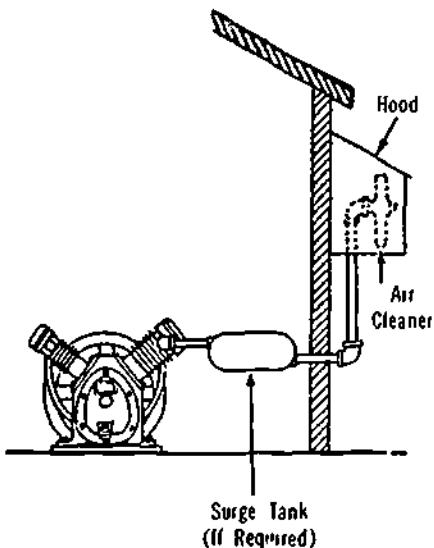

Figure 32-5. Inlet Piping Arrangement
7. *Inlet Piping.* Compressors are normally equipped with inlet mufflers and cleaners, but inlet piping is not included. If desired, the inlet may be piped to another room; in any event, the inlet muffler and cleaner must be used, and if the inlet is piped outdoors, it must be hooded to prevent the entry of rain and snow. In areas of heavy snowfall, it should be positioned high enough to be free of drifts. Inlet piping should be as short and direct as possible and as large as, or larger than, the diameter of the inlet connection. It must also increase in diameter at 15 m intervals. If the total length of piping is between 15 m and 30 m, it is recommended that the increase in diameter be made mid-point in the length, that is if the total length is 24 m, increase the pipe diameter at the 12 m point. (See Figure 32-5.)
Figure 32-5 shows a typical hookup, with a surge tank, which is required for compressors that are regulated by a constant-speed or dual control fitted into the inlet piping. If a surge tank is not fitted, air surging in and out of the inlet when the compressor is running unloaded (inlet valves open) will cause the inlet piping to heat. Thus, when the compressor loads (inlet valve closed on the compressor stroke), the hot piping will increase the temperature of the inlet air to a degree that would contribute to carbonization and consequent valve trouble. Consult the manufacturer's instructions during installation for the requirement and for the capacity of the surge tank to be purchased if not supplied with the unit.